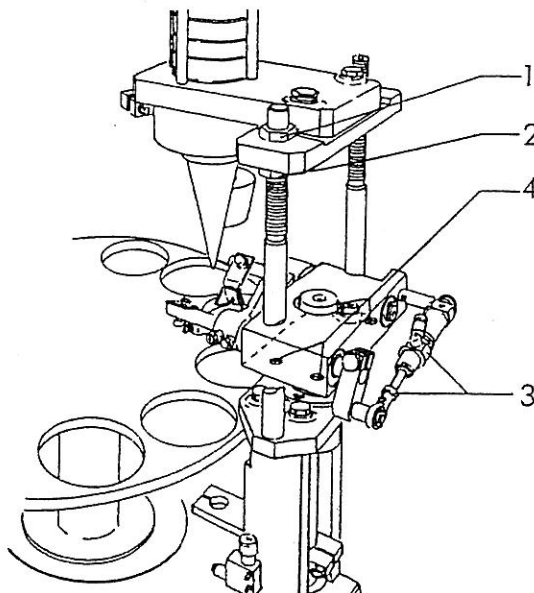

Fig.10.1.1
- loosen nuts 1 fig. 10.1.1;
- raise or lower the magazine using nuts 2 fig. 10.1.1;
- when adjustment has been carried out, lock nuts 1 fig. 10.1.1.
- Remove the screws 3 fig. 10.1.1. and remove the station.